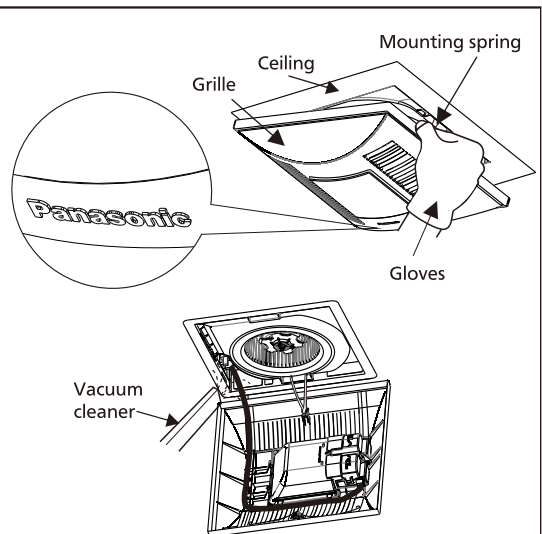

Fig.14
3. Remove grille by pulling down the mounting spring in the right side of "Panasonic" logo. Remove dust and dirt from fan body using a vacuum cleaner. (Fig.14)